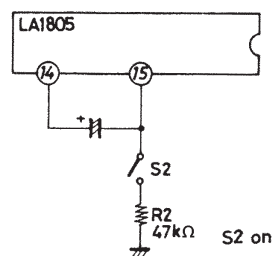

Figure 2 Forced Monaural Mode Setting Method
(2) Connect pin 15 to GND through a resistor of 47k Ω . (Turn ON the SW2 in Figure 2.)